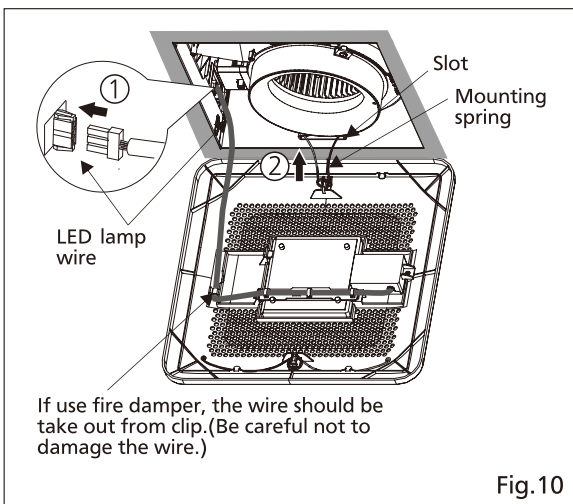

Fig.10
12. Connect the LED lamp wire to fan body as shown in Fig.10 ①.
13. Insert one mounting spring into slot as shown in Fig.10 ②. (If not, the grille may not be installed.)